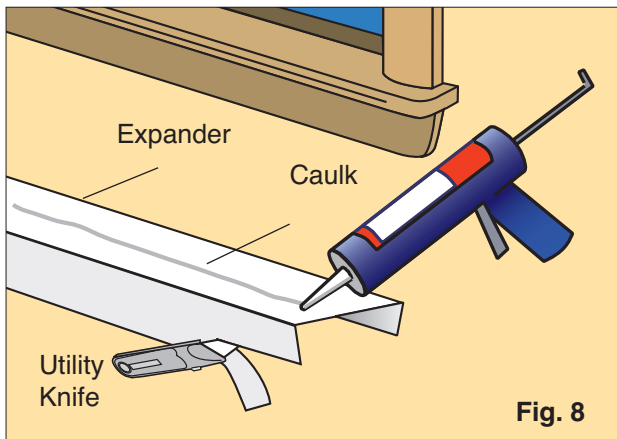

Fig. 8
3. Install the supplied head expander on top of the window. Place fiber glass batt insulation between the expander and the window. Try the window to see if the expander rests too high. The legs of the expander may need to be trimmed with a razor. (Fig. 8 and 8a)